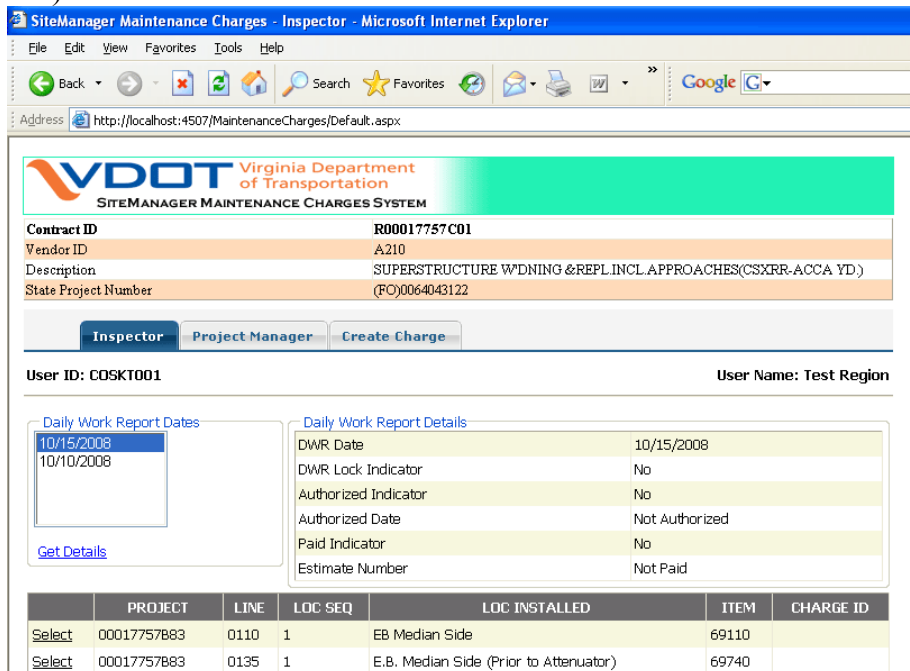

Figure 3
Step 5: Double click the entry **NewMaintCharges** and the web application will open in Internet Explorer (Figure 3)